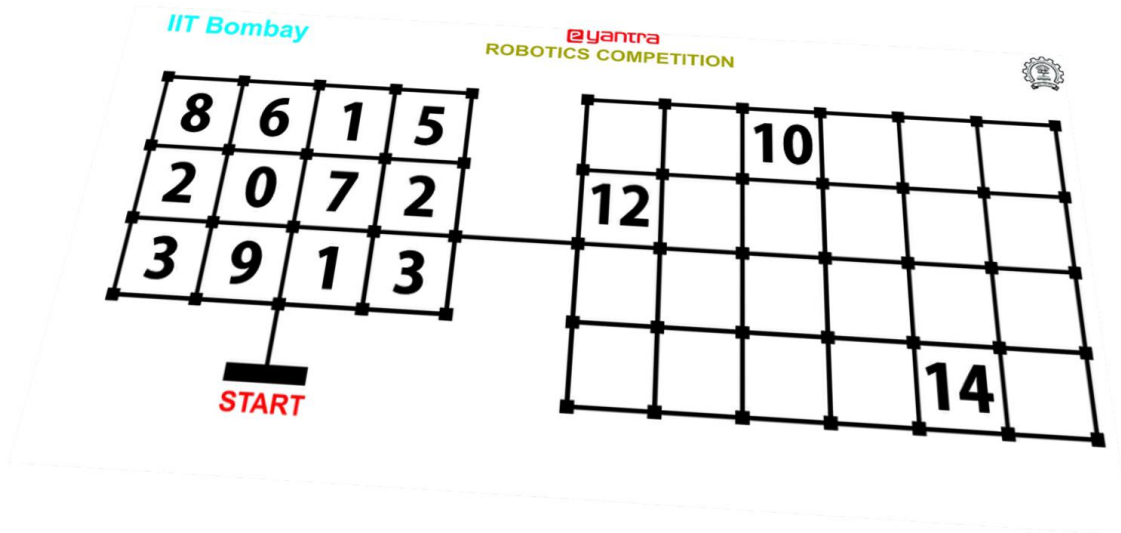

Figure 5: Example - Placement of Patches Using Input Image
- For our example, after pasting all the patches in the appropriate locations, the arena looks like Figure 5.
Note: The arena shown in Figure 5 is specific to the example considered. During the competition the numbers and their positions will be different (given as an input image) and hence the placement of patches will vary accordingly.